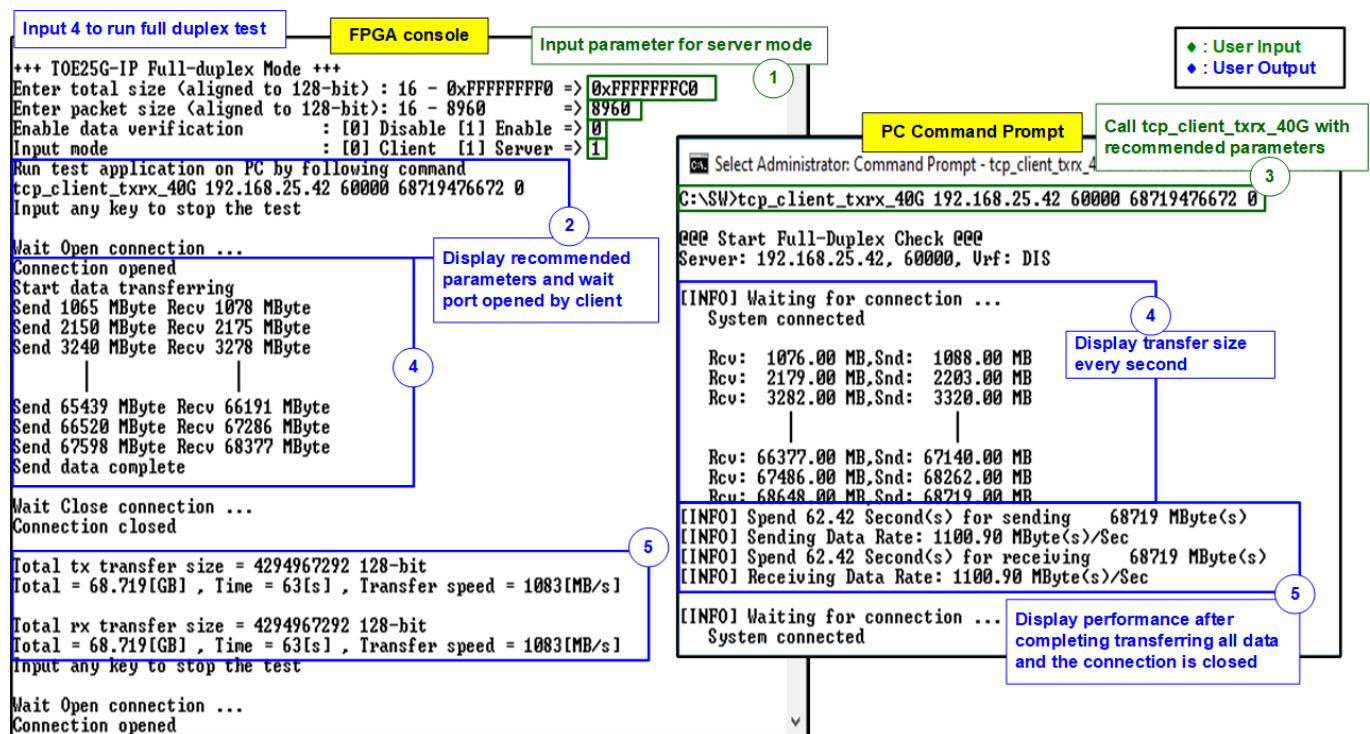
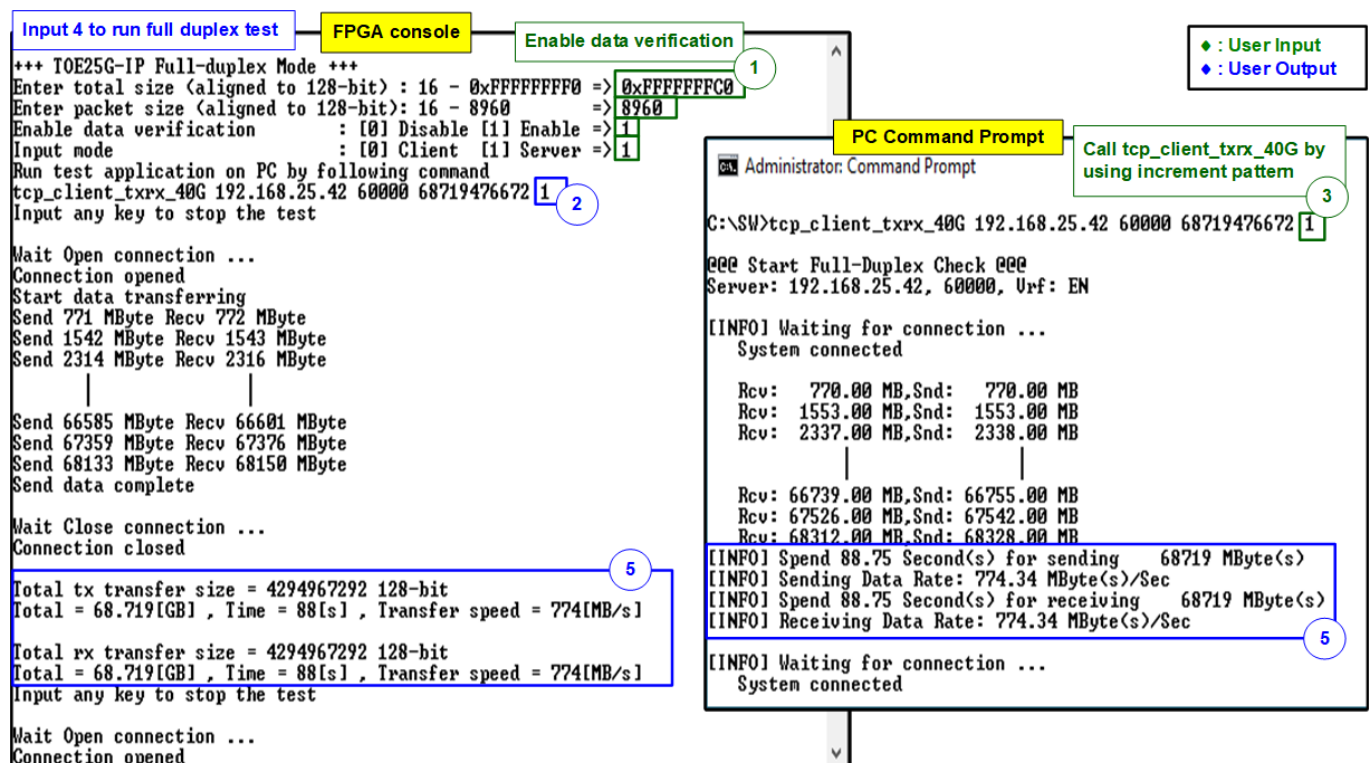

Figure 3-12 Full duplex test without data verification
Figure 3-13 Full duplex test with data verification
As shown in Figure 3-12 - Figure 3-13, transfer performance when running full duplex without data verification shows better performance than the test with data verification. Running without data verification takes less PC resource. The left window is the test result on FPGA console while the right window is the test result on Command prompt.
***Note:** There is an issue when running tcp_client_txrx_40G application on some Windows10 versions. The performance is much reduced. The results displayed in Figure 3-12 and Figure 3-13 use Windows10 Pro version 1909. While using Windows10 Pro version 2004 or 20H2, the performance is less than 200 MB/s.*